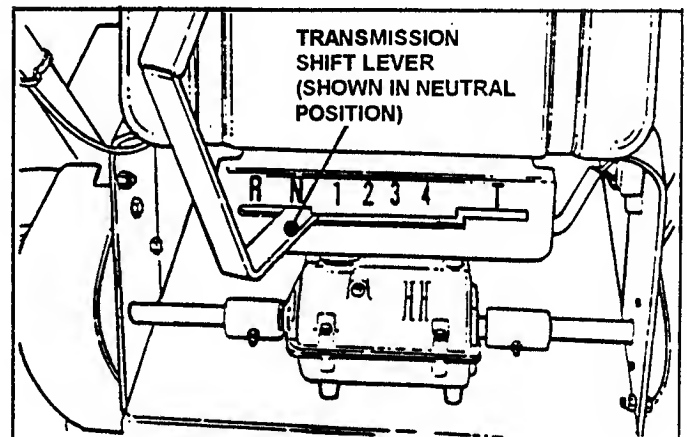

FIGURE 4
3. Place Transmission Shift Lever in **NEUTRAL(N)** position. See Figure 4.